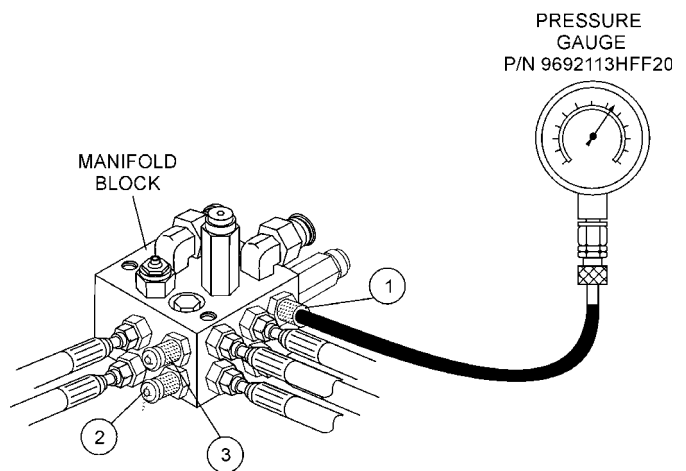

Figure 29. Manifold Test Ports
6. On the manifold block, install a 5,000 psi pressure gauge (Figure 29) to the forward pressure quick disconnect test port 2.
1. On the manifold block, install a 5,000 psi pressure gauge into quick disconnect test port 1 (Figure 29).